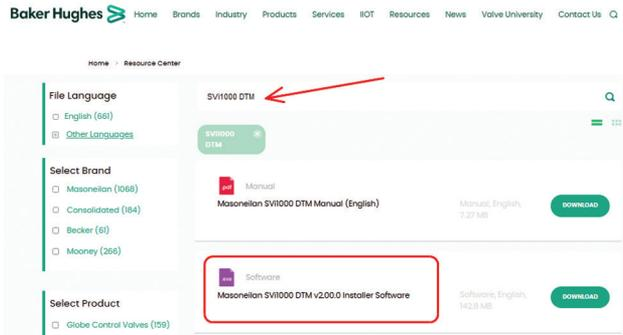

Figure 28 - Download Center: Search for SVI1000 DTM
1. Go to the Resource Library (<https://valves.bakerhughes.com/resource-center>) and enter SVI1000 DTM in the search field (red arrow in Figure 28).
The results appear (red box in Figure 28).